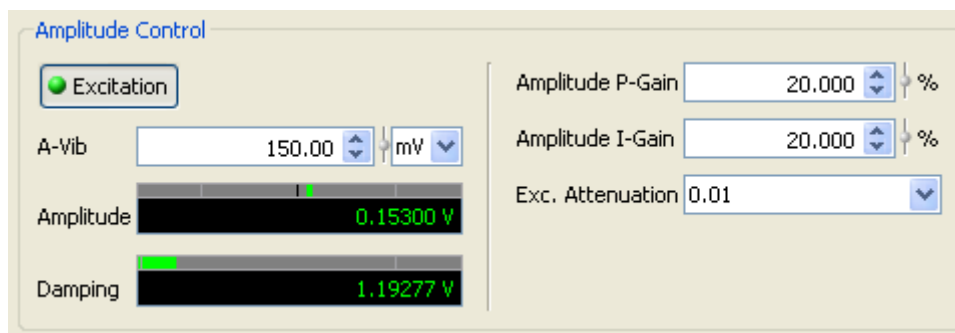

Figure 109. PLL Amplitude Control panel.
- Check that the true cantilever amplitude is about the same as the amplitude setpoint A-Vib, see figure 109 on page 107. This indicates that the amplitude control works properly.